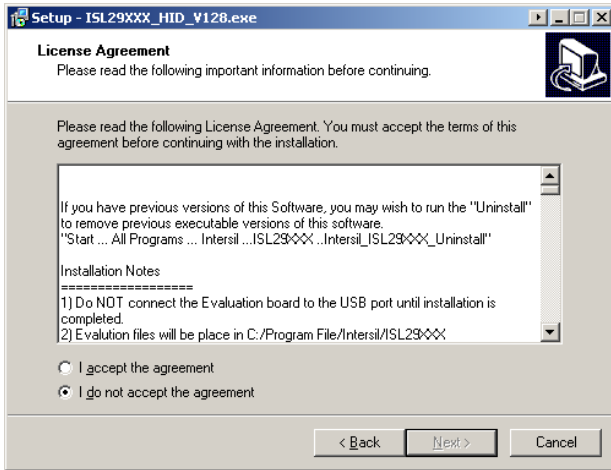

FIGURE 3. INSTALLATION LICENSE AGREEMENT SCREEN
- To open the program, go to the "Start" menu, as shown in Figure 3 (Start → Intersil → Intersil_29XXX_HID → Intersil_29XXX_HID)